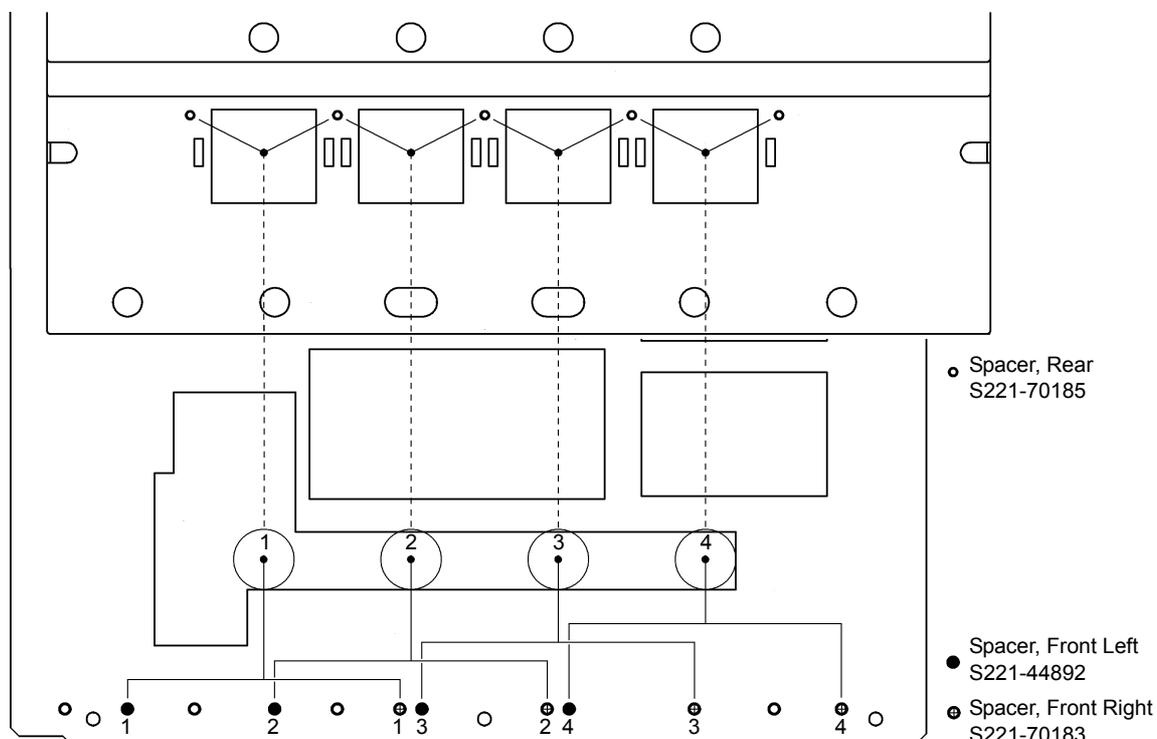

Figure 2-3
- 3** Using the wrench (accessory), remove two of the front spacers mounted to the INJ/DET mounting plate. Remount them to the designated positions by referring to Figure 2-3.
- 4** Using the wrench, remove two of the rear spacers mounted to the INJ/DET mounting plate. Remount them to the designated positions by referring to Figure 2-3.